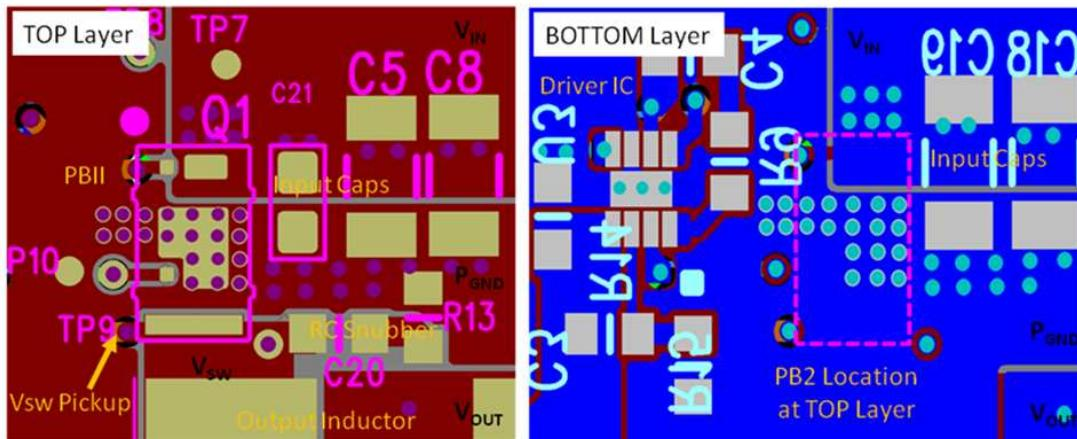

Figure 29. Recommended PCB Layout (Top Down View)
- The placement of the input capacitors relative to VIN and PGND pins of CSD87588N device should have the highest priority during the component placement routine. It is critical to minimize these node lengths. As such, ceramic input capacitors need to be placed as close as possible to the VIN and PGND pins (see Figure 29). The example in Figure 29 uses 1 x 10 nF 0402 25 V and 4 x 10 μF 1206 25 V ceramic capacitors (TDK part number C3216X5R1C106KT or equivalent). Notice there are ceramic capacitors on both sides of the board with an appropriate amount of vias interconnecting both layers. In terms of priority of placement next to the Power Stage C21, C5, C8, C19, and C18 should follow in order.
- The switching node of the output inductor should be placed relatively close to the Power Block II CSD87588N VSW pins. Minimizing the VSW node length between these two components will reduce the PCB conduction losses and actually reduce the switching noise level. See Figure 29.⁽¹⁾
- Use the smallest drill size allowed in your design. The example in Figure 29 uses vias with a 10 mil drill hole and a 16 mil capture pad.